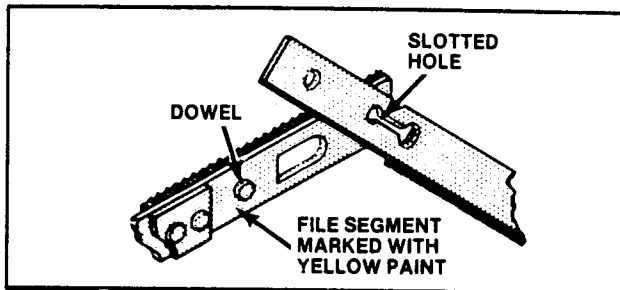

FIG. 49. JOINING THE FILE BAND.
- (1) Place band on wheels and insert one end through table center plate. Cutting edges should point down.
- (2) Hold yellow lock rivet segment in left hand. Depress spring steel band tip held in right hand.
- (3) Allow rivot head to slip into slotted hole and slide into slot's small end.
- (4) Straighten band to allow spring steel end to snap over dowel. See Fig. 49.